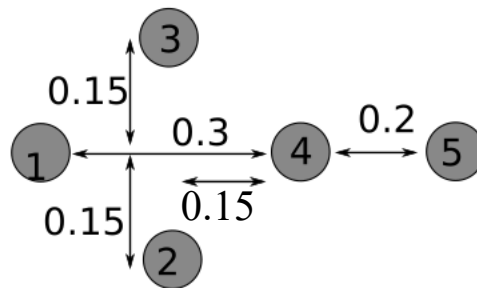

Figure 2. Desired positions in robot formation
20. (S): Read the navigation algorithm for the follower robots and understand how the diamond formation is maintained, using the relative leader position and proximity sensors. It is assumed that the leader robot will never move backwards. Compile the *follower* and the *leader* controllers as well as the supervisor. Run the simulation a few times and see the behavior of the follower robots **while controlling the leader with your keyboard’s arrow-keys**. Hint: The leader needs to be selected to control it with your keyboard.
21. (S): In the follower controller, there is a proportional controller to maintain the projected forward distance to the leader. Modify the value of the proportional coefficient of this controller, run and note the effect.
22. (S): Test the robustness of this controller with the *leader_rand* controller for the leader; this controller applies random movements to the leader. In the *formation1_super* supervisor set *print_enable* to 1 (line 59). Compile and run for at least 30 minutes of simulated time. Use the error in position of each robot reported by *formation1_super* to determine how well the algorithm is working.
23. (I): Consider the previous formation of four robots. Now we will add a fifth robot in the formation. The desired position of this robot in the formation is indicated in *Figure 2* below. Make the necessary modifications (in the world and in the code) in order to achieve the desired formation behavior.
Considering five holonomic agents, the goal is to design a graph-based control algorithm which leads them to the topological formation shown in Figure 2.
35. **(B)**: Add three more edges to the graph in Figure 2. Compute the “*Incidence*” matrix of the new graph. Modify the “I” matrix in the code and run the script. Is the achieved final formation topology different? Is the convergence faster than before? What do you conclude?